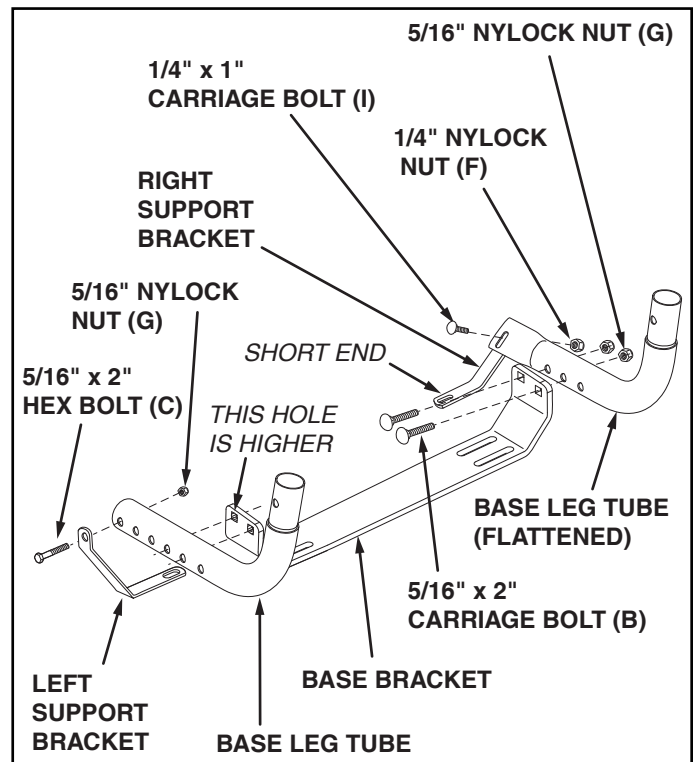

FIGURE 2
STEP 2: (SEE FIGURE 2)
- Attach the right side of the base bracket to the front two holes in the flattened base leg tube using two 5/16" x 2" carriage bolts (B) and 5/16" nylock nuts (G). **Make only finger tight.**
- Attach the left side of the base bracket to the fourth and fifth holes in one of the base leg tubes using two 5/16" x 2" carriage bolts (B) and 5/16" nylock nuts (G). **Make only finger tight.**
- Attach the long end of the right support bracket to the outside of the flattened end of the right base leg tube using a 1/4" x 1" carriage bolt (I) and 1/4" nylock nut (F). **Make only finger tight.**
- Attach the left support bracket to the outside of the left base leg tube using one 5/16" x 2" hex bolt (C) and 5/16" nylock nut (G). **Make only finger tight.**